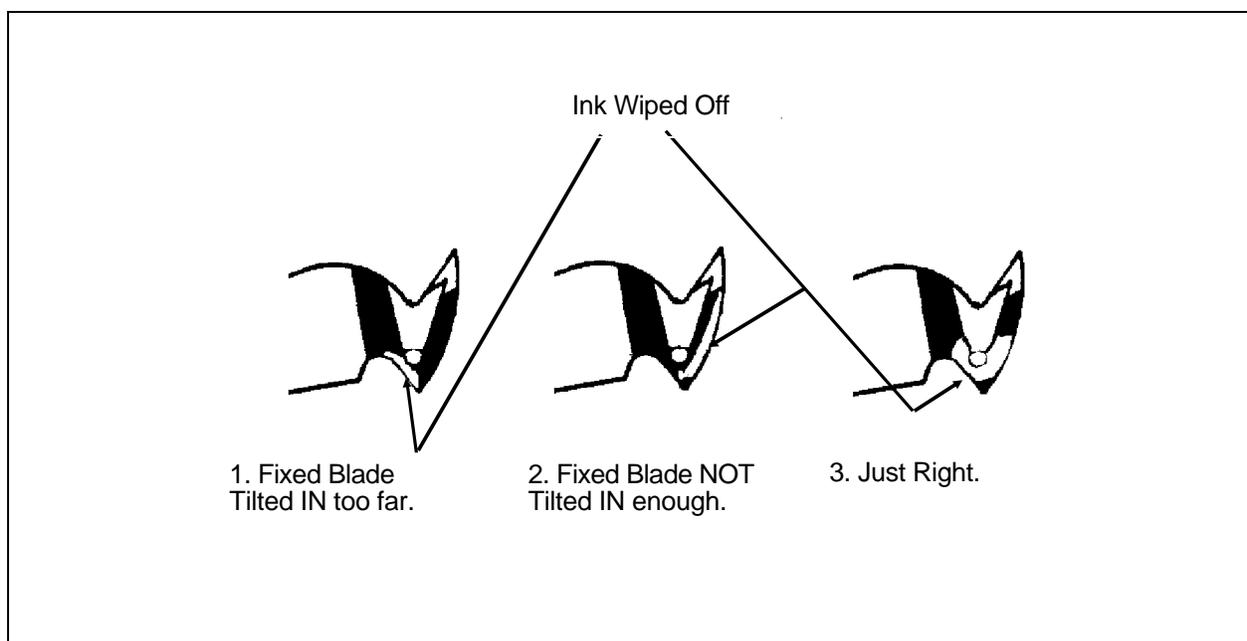

Fig. 4-8 Knife Ink Wipeoff
- Tighten screw A until the ink wiped off looks like # 2 in Fig. 4-8.
- Then tighten screw B until it looks like # 3 in Fig. 4-8.
If you look directly at the Fixed Blade from the front you will see that it "tilts" a little as you adjust the blade. It is this "tilt" that you are really adjusting. If the Fixed Blade is adjusted too far to the left, as you look directly head on at the blade, the ink wiped off the top of the blade will look like Fig. 4-8, # 1. This condition is the result of screw B being too tight. Back off the screw a little bit. Tighten screw A little bit and then pass the Movable Knife under the Fixed Blade again and look at the knife if it does not look like Fig.4-8, # 3, tighten screw B a little bit more. The object here is to get the ink wiped off the Movable Knife, by the Fixed Blade, so that the wipe off looks like Fig. 4-8, # 3. There should be some resistance as the Movable Knife passes under the Fixed Blade, but be careful, you can get a good wipe off and still have the Fixed Blade too tight, this can cause Z Timeout Errors. Make no mistake
fingers are .060-.080 inches (1.5-2.0mm) from the outside edge of the paper bobbin spool. See fig. 4-8 on the previous page.